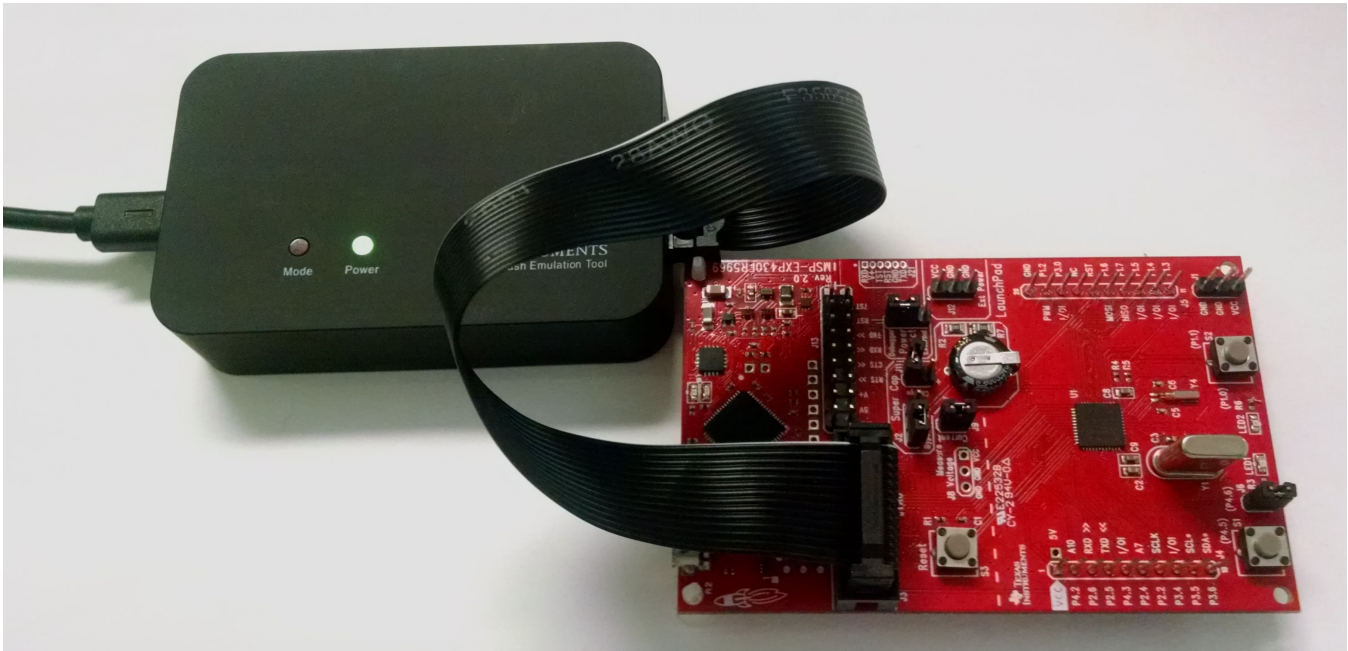

Figure 18. MSP-FET Connected to MSP-EXP430FR5969
3. Connect MSP-FET to MSP-EXP430FR5969 and to PC (see Figure 18).